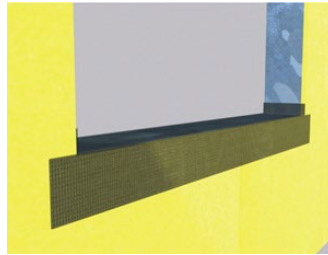

Fig. 2
- 3) Immediately lay the AquaFlash Mesh into the wet material and brush smooth adding additional material to completely embed the mesh - Figure 2.